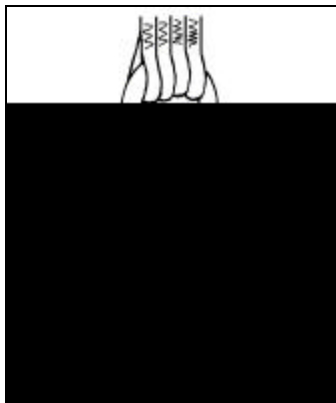

Figure 2.
STEP 3.) Attach the canopy line groups to the correct reserve risers of the harness/container system by folding the loop of the reserve risers (to the inside) to the interior width of the connector link. (See Figure 2.)